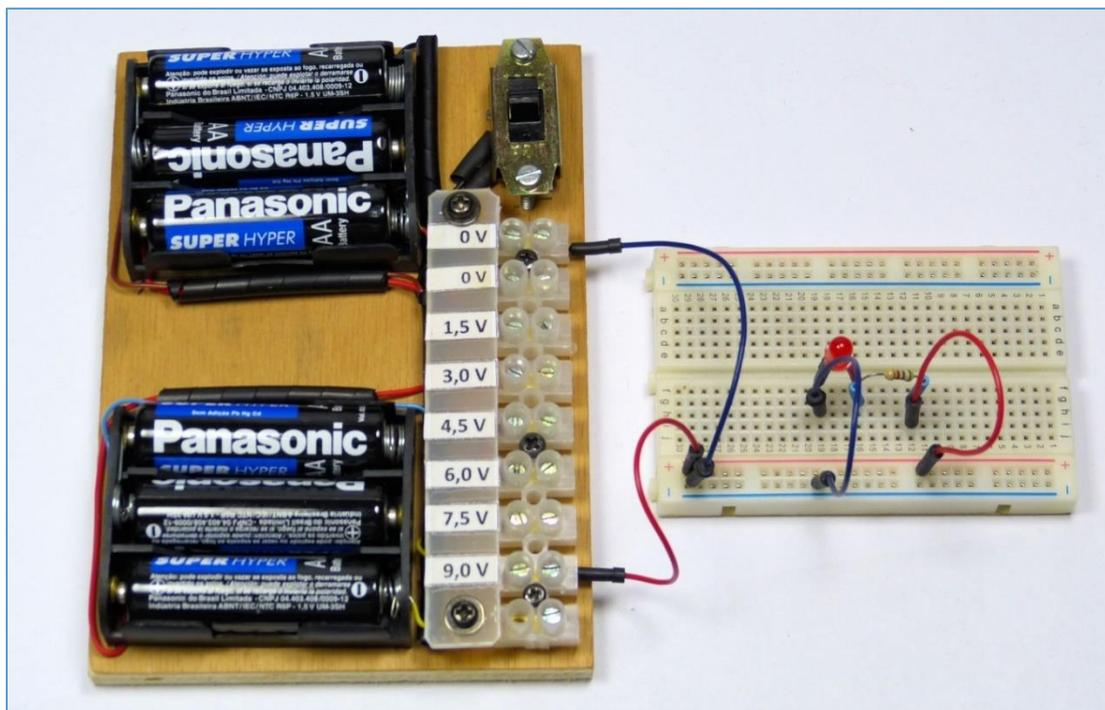

Figure 60 - Protoboard circuit connected to power supply. On/off switch is "off".
4. In figure 60 you can see the material needed for the experiment.